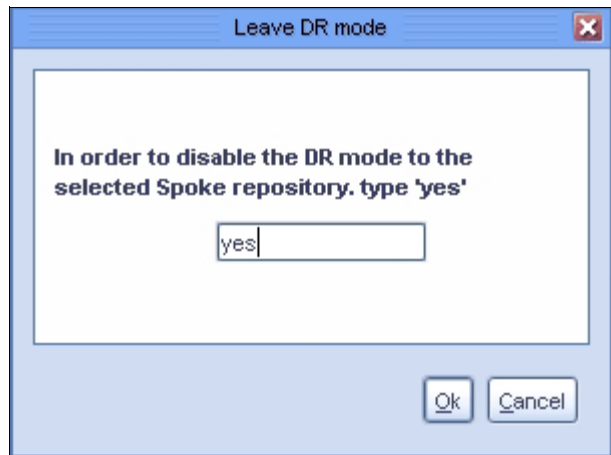

Figure 11-19 Confirm selection
3. Confirm your decision (Figure 11-19). After the repository is out of DR mode, any replication policy defined on the spoke repository can modify the cartridge data. You can begin working again with the restored repository.